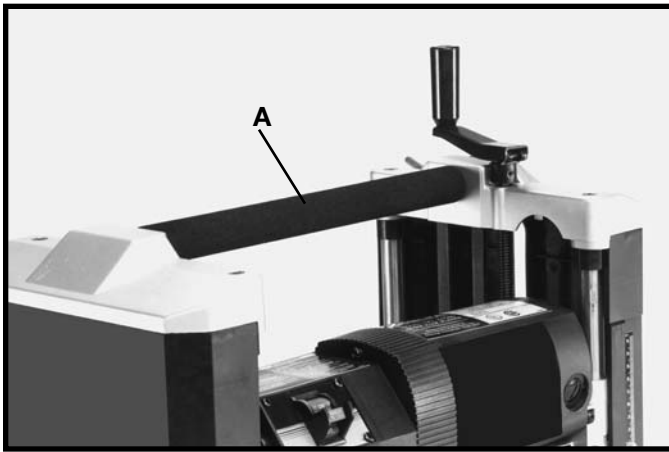

Fig. 22
1. Your planer is provided with a foam covered carrying handle (A) Fig. 22, located on top of the machine, for ease in transporting the planer. **Carrying handles are also provided at the base of the planer on each side which allow you to lift the machine with ease.**